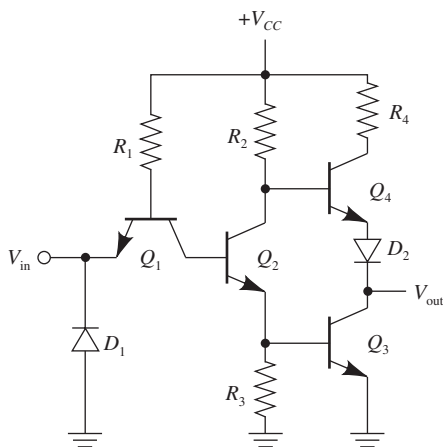
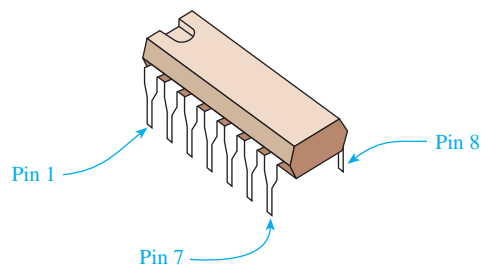
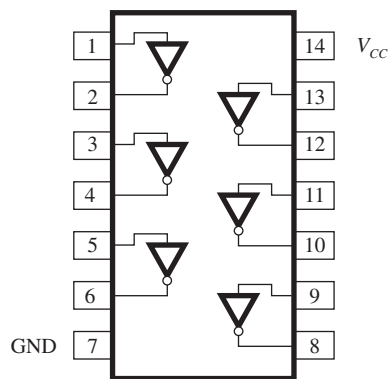

Figure 37 Schematic of a TTL inverter circuit.
Figure 38 A 7404 TTL IC chip.
Figure 39 A 7404 hex inverter pin configuration.
This idea of needing a variable R_C resistance is accommodated by the **TTL integrated circuit** (Figure 37). It uses another transistor (Q_4) in place of R_C to act like a varying resistance. Q_4 is cut off (acts like a high R_C) when the output transistor (Q_3) is saturated, and then Q_4 is saturated (acts like a low R_C) when Q_3 is cut off. (In other words, when one transistor is ON, the other one is OFF.) This combination of Q_3 and Q_4 is referred to as the **totem-pole** arrangement.
A single TTL integrated-circuit (IC) package such as the 7404 has six complete logic circuits fabricated into a single silicon **chip**, each logic circuit being the equivalent of Figure 37. The 7404 has 14 metallic pins connected to the outside of a plastic case containing the silicon chip. The 14 pins, arranged 7 on a side, are aligned on 14 holes of a printed-circuit board, where they are then soldered. The 7404 is called a 14-pin **DIP** (dual-in-line package) and costs less than 24 cents. Figure 38 shows a sketch of a 14-pin DIP IC.
The pin configuration of the 7404 is shown in Figure 39. The power supply connections to the IC are made to pin 14 (+5 V) and pin 7 (ground), which supplies power to all six logic circuits. In the case of the 7404, the logic circuits are called *inverters*. The symbol for each inverter is a triangle with a circle at the output. The circle is used to indicate the inversion function. Although *never* shown in the pin configuration top view of digital ICs, each gate is electrically tied internally to both V_{CC} and ground. The entire circuit shown in Figure 37 is contained inside each of the six inverters.
Figure 41(d) uses digital logic (inverters in this case) to turn ON the LEDs. One advantage of using logic gates is that you do not need to provide 5-V and 0-V levels as the input to the circuit as we did above. You need only to provide a voltage that looks HIGH to the input of the gate to make the gate’s output go to 5 V. (It gets its 5-V output voltage from the V_{CC} supply connected to pin 14 of the 7404 IC shown in Figure 39.) In this illustration, the R_7 potentiometer (variable resistor) is set to its top 25% point, which drops the 5-V supply by 25%, equaling approximately 3.75 V. This is definitely a HIGH input (1) to the inverters, making them output a LOW (0), which provides a path for the current to turn ON LED4. The current actually flows through LED4 into the output pin of U2A (pin 2 of the 7404 shown in Figure 39) and then down into ground via the ground pin 7 shown in Figure 39. At the same time, inverter U2C will output a HIGH (1) keeping LED5 OFF. The three voltmeters in the circuit show the voltage levels at various stages.
21. Which transistor in the schematic of the TTL circuit in Figure 37 serves as a variable R_C resistance?